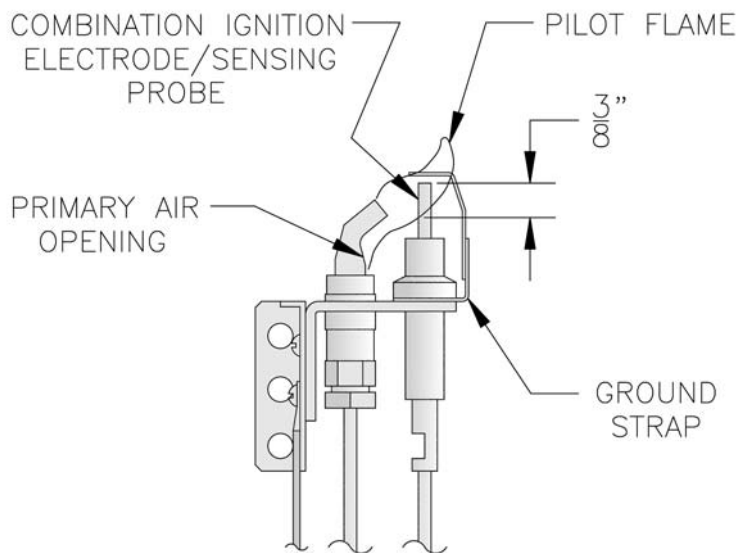

Figure 14
- 6 CHECK PILOT FLAME. Flame should be a blue medium hard flame enveloping approximately 3/8" of the end of the sensing probe, see Figure 14.
- e. Check pilot and main burner flames, refer to Figures 14 & 15.